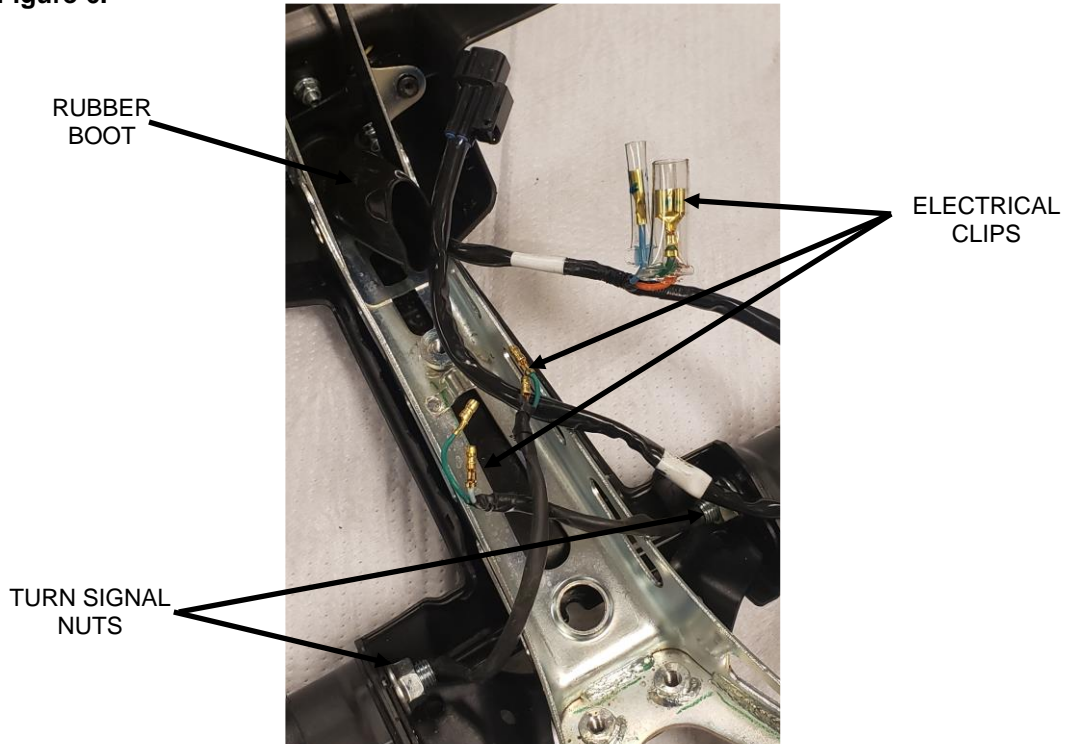

FIGURE 4
6. Slide the rubber boot down the wiring harness to expose the turn signal electrical clips. Disconnect the four electrical clips. See **Figure 4**.
7. Loosen the nuts securing the turn signals and remove the turn signals by sliding the nuts over the electrical clips and feeding the clips through the mounting hole. Retain both of the nuts as they will be reused. See **Figure 4**.